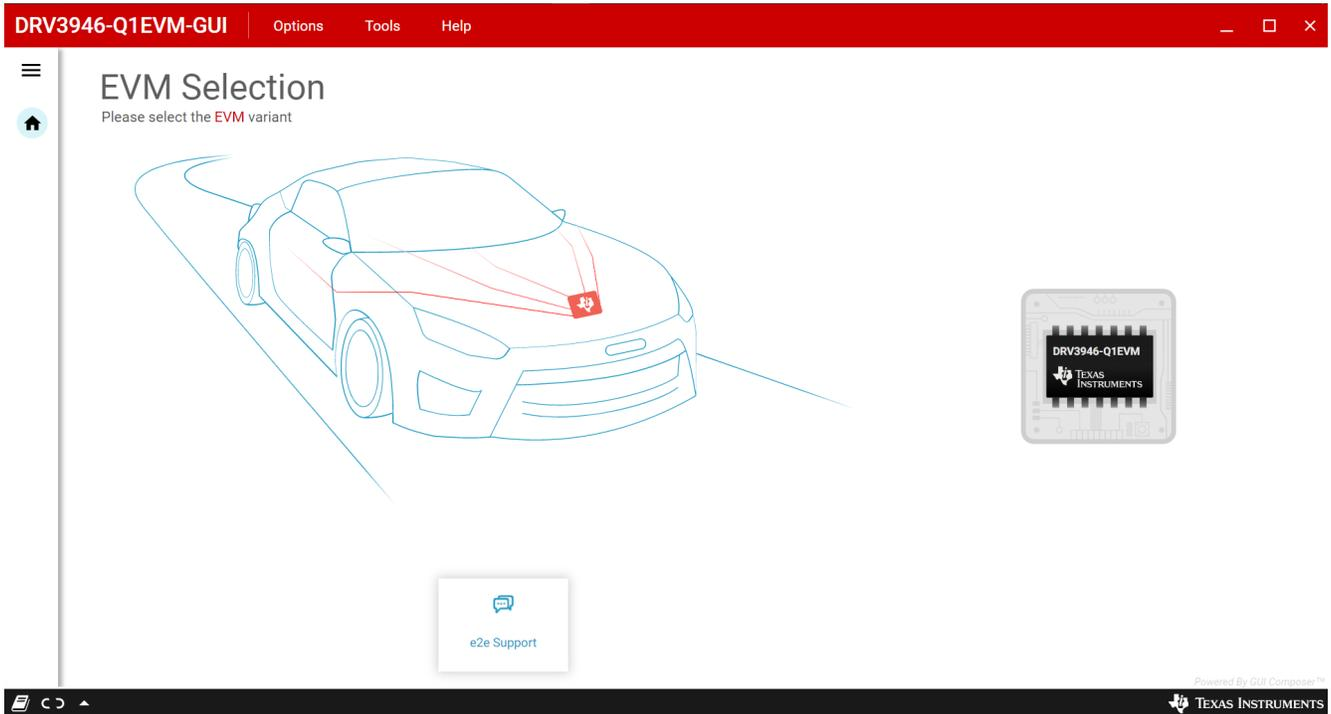

Figure 4-1. DRV3946-Q1EVM GUI Main Start-up Page
2. From the screen referenced in Figure 4-1, click on the icon to the right labeled "DRV3946-Q1EVM."